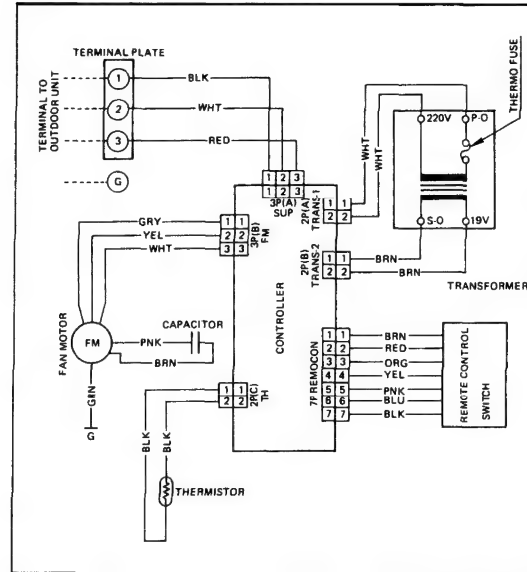

Fig. E-13
2. Set the resistance measuring range of multimeter to "X1Ω" and measure the resistance of the lead wires between WHT - WHT and BRN - BRN as shown in Fig. E-13.